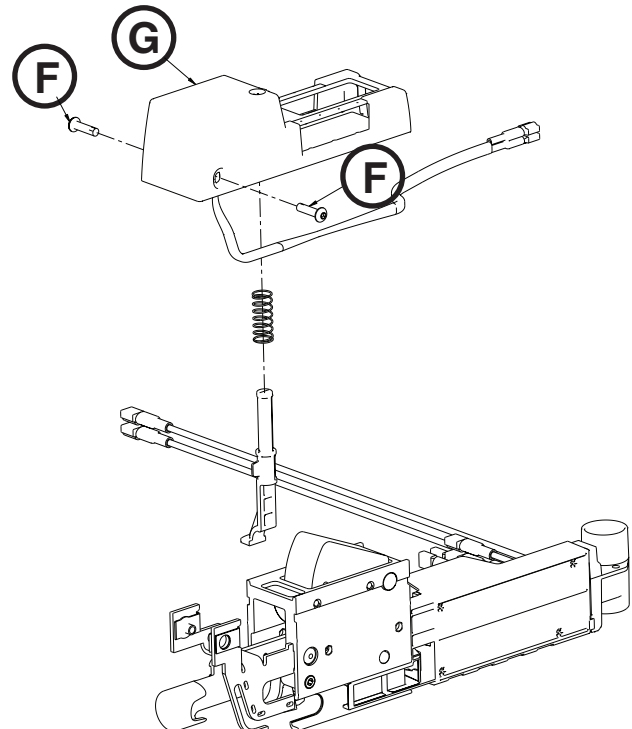

Figure 102
- Using a 1/8" hex wrench, remove the two button head cap screws (F) that secure the anchor housing assembly, head end to the anchor pawl assembly and remove the anchor housing assembly (G) (Figure 102).